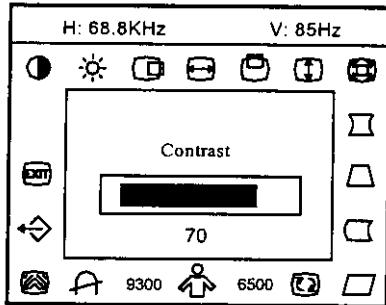

Figure 4 The OSD Message
1. Press the Shuttle Knob or OSD Key to make the OSD window appear. See figure 4.
2. Rotate the Shuttle Knob to select the desired function. See figure 4.